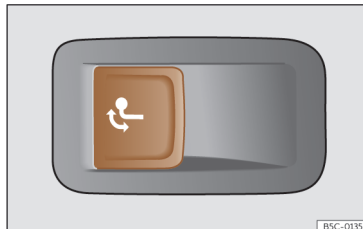

Fig. 197 Left side of the luggage compartment: button to unlock the tow hitch.
- Pull the >>> **Fig. 197** button briefly. The tow hook unlocks electrically and automatically turns outwards. The button's control lamp flashes.
- Pull the >>> **Fig. 197** button briefly. The tow hook unlocks electrically.
• Never press the button >>> **Fig. 197** when there is a trailer hooked to the vehicle or when a carrier system or other accessories are mounted on the tow hook.